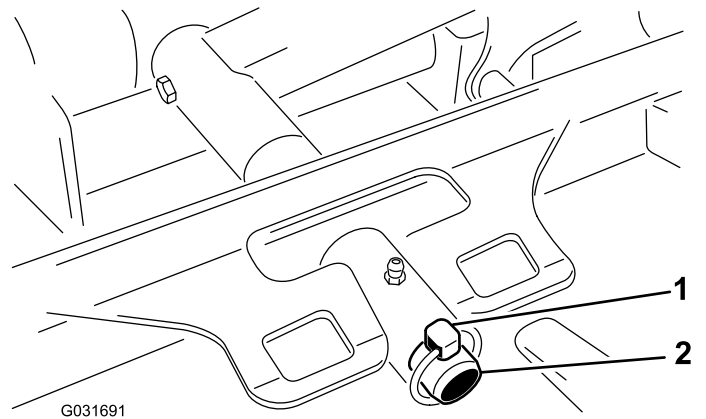

Figure 60
3. Remove the lynch pin securing the deck-carrier frame to the lift-arm pivot pin (Figure 60).
3. Slide the deck-carrier frame onto the lift-arm pivot pin and secure it with the lynch pin (Figure 60).